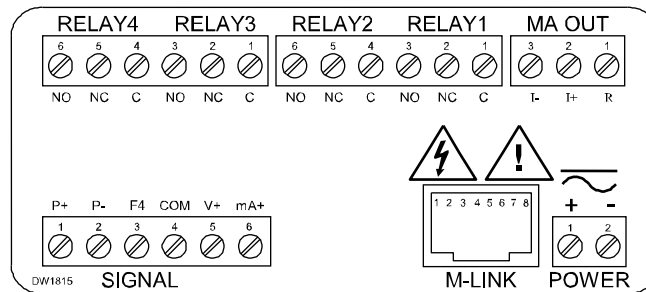

Figure 6. Connector Labeling for Fully Loaded PD6000
Power connections are made to a two-terminal connector labeled POWER on Figure 6 on page 11. The meter will operate regardless of DC polarity connection. The + and - symbols are only a suggested wiring convention.
Signal connections are made to a six-terminal connector labeled SIGNAL on Figure 6. The COM (common) terminal is the return for the 4-20 mA and the ± 10 V input signals.
Serial communications connection is made to an RJ45 connector labeled M-LINK on Figure 6. For interfacing to the PROVu®, use the PDA1232 for RS-232 or the PDA1485 for RS-485. The same port is used for interfacing with all expansion modules (e.g. external relays, digital I/O).
Relay connections are made to two six-terminal connectors labeled RELAY1 – RELAY4 on Figure 6. Each relay's C terminal is common only to the normally open (NO) and normally closed (NC) contacts of the corresponding relay. The relays' C terminals should not be confused with the COM (common) terminal of the INPUT SIGNAL connector.